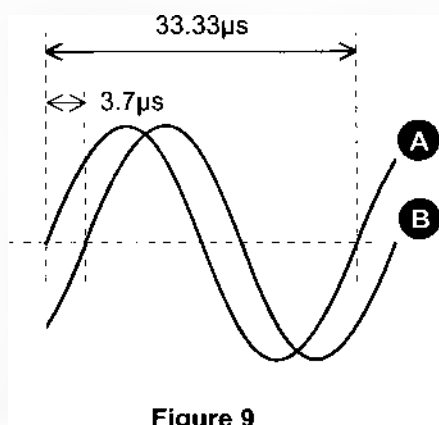

Figure 9
1. What is the phase difference between the sinewaves in Figure 9?